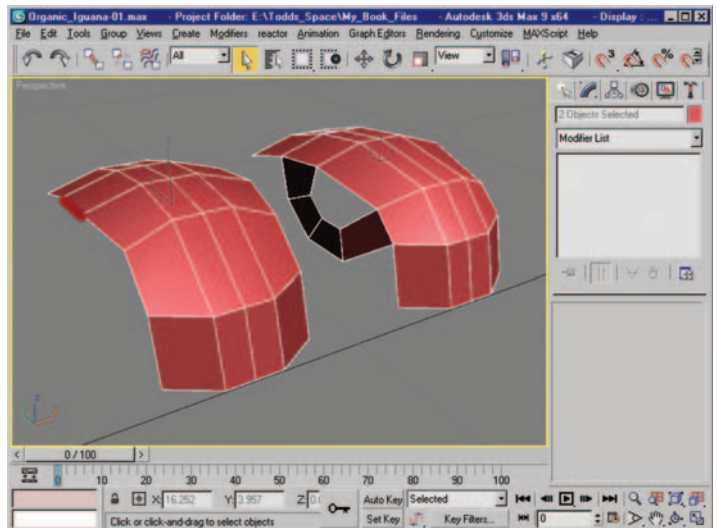

Figure 9.6A Edge selection and resulting mesh after shift-dragging.
6. Select the edge shown in Figure 9.6A (left) and shift-drag it four times to create the shape shown in Figure 9.6A (right). With each shift-drag, adjust the position and rotation of the edges and vertices to form the desired flow of edges. Use Edge Constraints when needed.